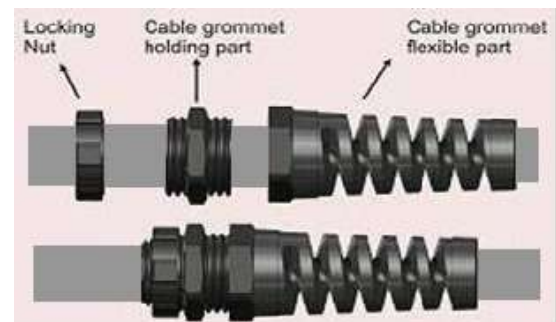

Figure 135
- Loosen the cable grommet clamp as shown in Figure 135 . Loosen the grommet nut inside the Base Unit as shown in Figure 135 and remove the grommet & the cable out of the Base Unit (through the cable entry hole).